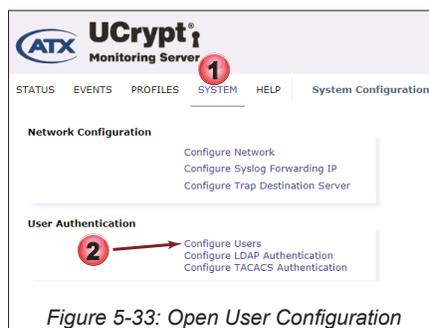

Figure 5-33: Open User Configuration
1. Click the **System** tab if it is not already selected, Figure 5-33.